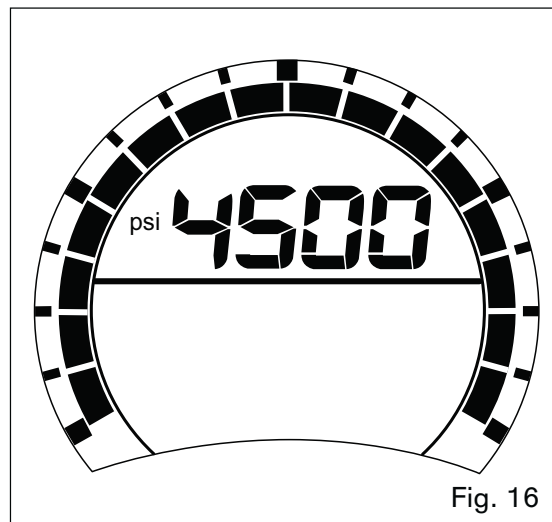

Fig. 16
- ◆ Remaining cylinder pressure is indicated on the user interface and the HUD LEDs. The user interface shows the cylinder pressure digitally (numeric) and as an analogue segment display (Fig 16). The HUD shows the cylinder pressure with LEDs (refer to the Table 1). The user interface digital display is the most accurate indicator.